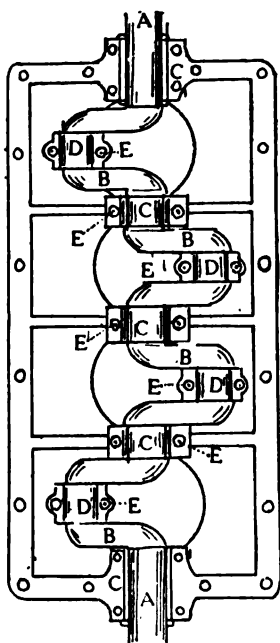

Fig. 14
Moreover, it is sometimes impossible to tell whether the trouble actually is in a bearing or not, and the motor might be taken down only to find out that the bearings were in perfect condition and all the time and trouble had been wasted. By removing the plates the bearings may be inspected or adjusted, and by taking off the lower half of the case all the internal mechanism of the motor is exposed and accessible (Fig. 14). This shows the appearance of a four-cycle motor after the lower part of the crank-case is removed, as it appears looking up into the case. You will see that the greater part of the case is occupied by the round rod or shaft (A), with the various crank-throws (B) and their bearings (C). Over each crank is a round hole which is the lower end of a cylinder, and some of the cranks extend